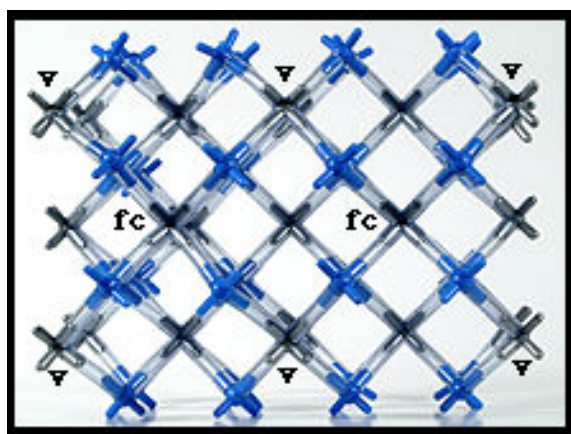

Fig. 12 Completed crystal model with two side-by-side unit cells, The labels indicate calcium ions in the same plane. v=vertex ion; fc=face centered ion.
10. To complete the crystal model, bond each fluoride to a calcium ion closest to it. Make sure that the bond is not distorted (bent). See Fig. 12.